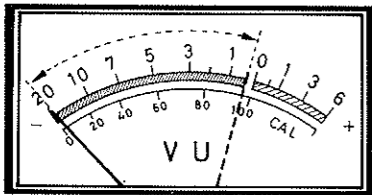

Fig. 7
10. Adjust the recording level with the record level control knobs so that the VU meter pointers deflect within "BLACK" areas (Fig. 7).